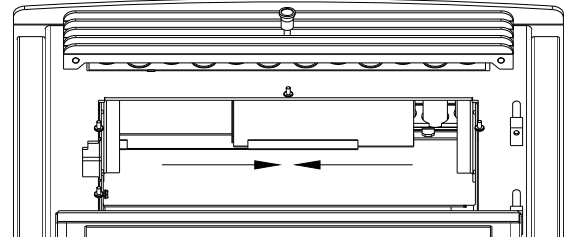

Figure 20
- b. Open the door and remove the baffle from the firebox. Slide each side of the baffle toward the center to remove (Figure 20). Close the door.
- b. **Baffle:** Remove the baffle and scrape off ashes. Slide both sides toward the center to remove the baffle(Figure 20) Use a vacuum is necessary. In some cases, you will need to remove creosote on the baffle, which can accumulate rapidly under certain conditions. A small wire brush can be used. It is important to remove this creosote because it is highly combustible and could cause premature corrosion.